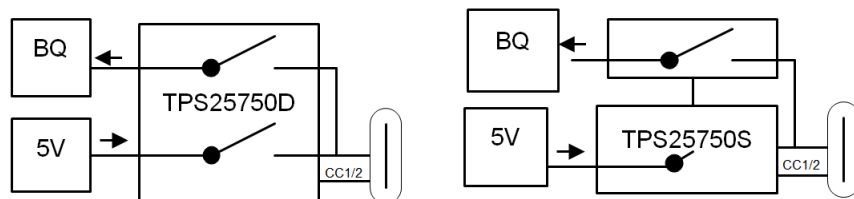

Figure 10-3. Power Source and Sink configuration with 5V DC and Battery Charger (BQ)
Figure 10-3 shows the configuration where the a 5-V DC is connected to the source path and a Battery Charger (BQ) is connected to the sink path.